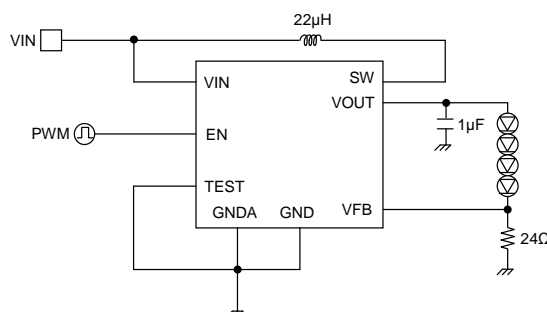

Figure 16. The brightness adjustment example of EN terminal by PWM (fPWM = 100Hz to 300Hz)
1) PWM brightness adjustment is made by giving PWM signal to EN as shown in Figure 16.